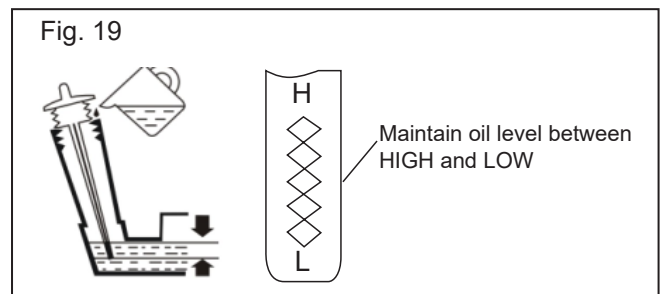

Fig.19
3. The oil level shall be between the marks "HIGH" and "LOW". See Fig.19.
4. It necessary fill with oil up to the FULL mark. See Fig.19.